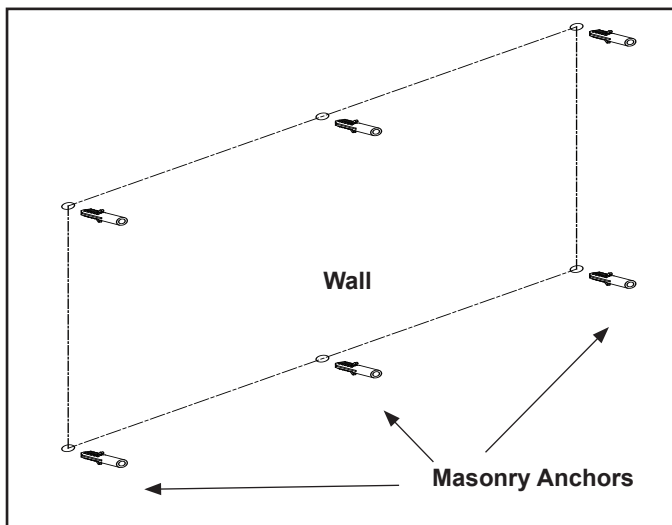

Figure 7 Masonry Anchor Placement
**NOTICE:** Minimum six (6) screws and anchors are required for MASONRY wall mounting.
- In the marked locations, drill 5/16 in. diameter x 2 in. deep holes. See Figure 7.